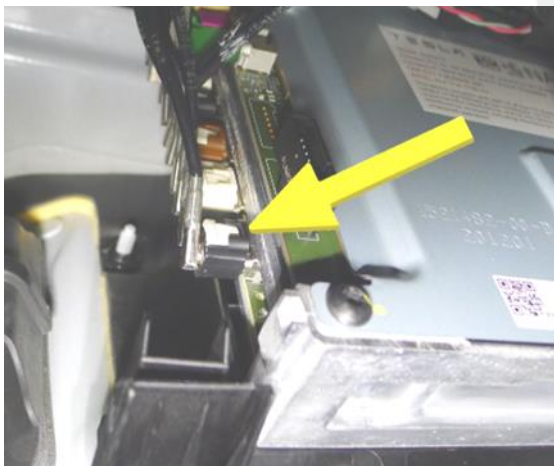

Figure 3 – Model 3
4. Release the locking tab, and then disconnect the electrical harness (X890) from the car computer (Figures 3 and 4).
11. Connect the electrical harness (X890) on the car computer, and then engage the locking tab (Figures 3 and 4).